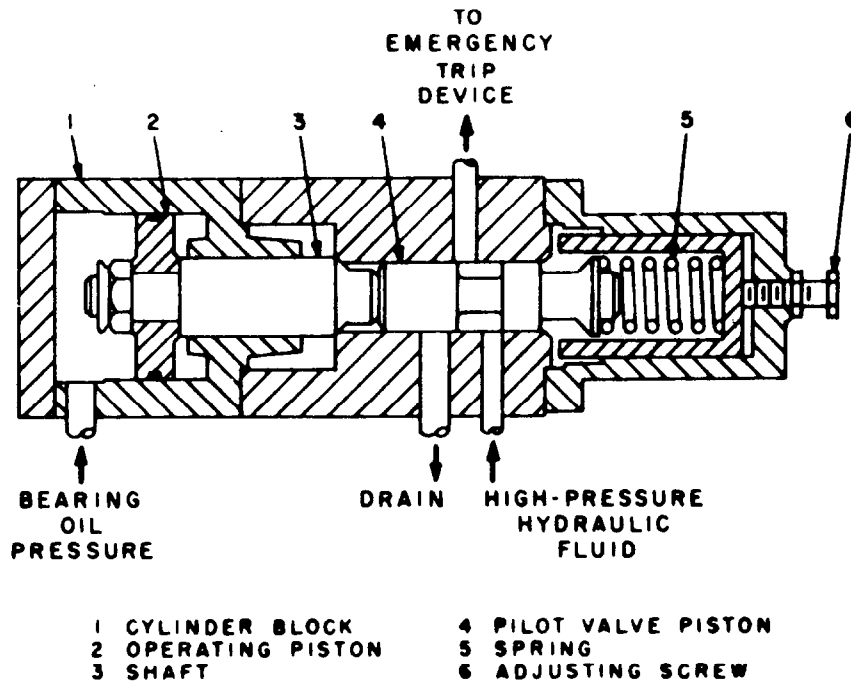

Fig. 1 - Low bearing pressure trip relay
The relay consists of an operating piston (2, Figure 1) which senses bearing oil pressure. The piston transmits force through shaft (3), to which it is connected, to pilot valve piston (4). The pistons are spring loaded against the force of the bearing oil pressure by spring (5). Tension on the spring is adjusted by adjusting screw (6).